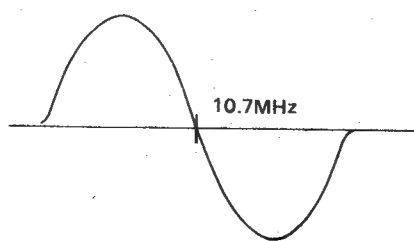

Figure 15.
9. Adjust the core of TA03 to obtain S-curve characteristic as shown in Fig. 15, say, symmetrical in both up-and-down and right-to-left directions.